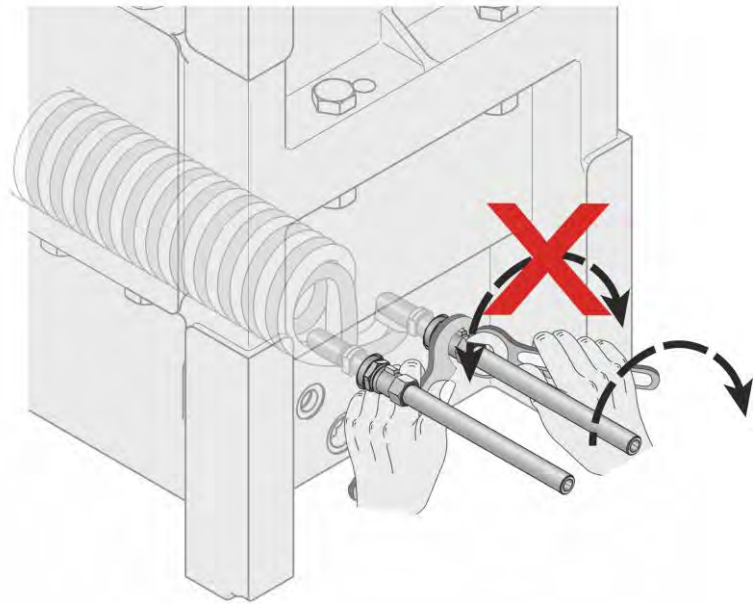

Fig. 69: Fin-tube integrated cooler
Use a hook spanner or similar tool to secure the cooling coil connections on the gearbox against twisting when assembling the connections at the customer's site. See Fig. 69, left hand.
2. Secure the customer-side connections. See Fig. 69, right hand. Do not turn your left hand when doing so.